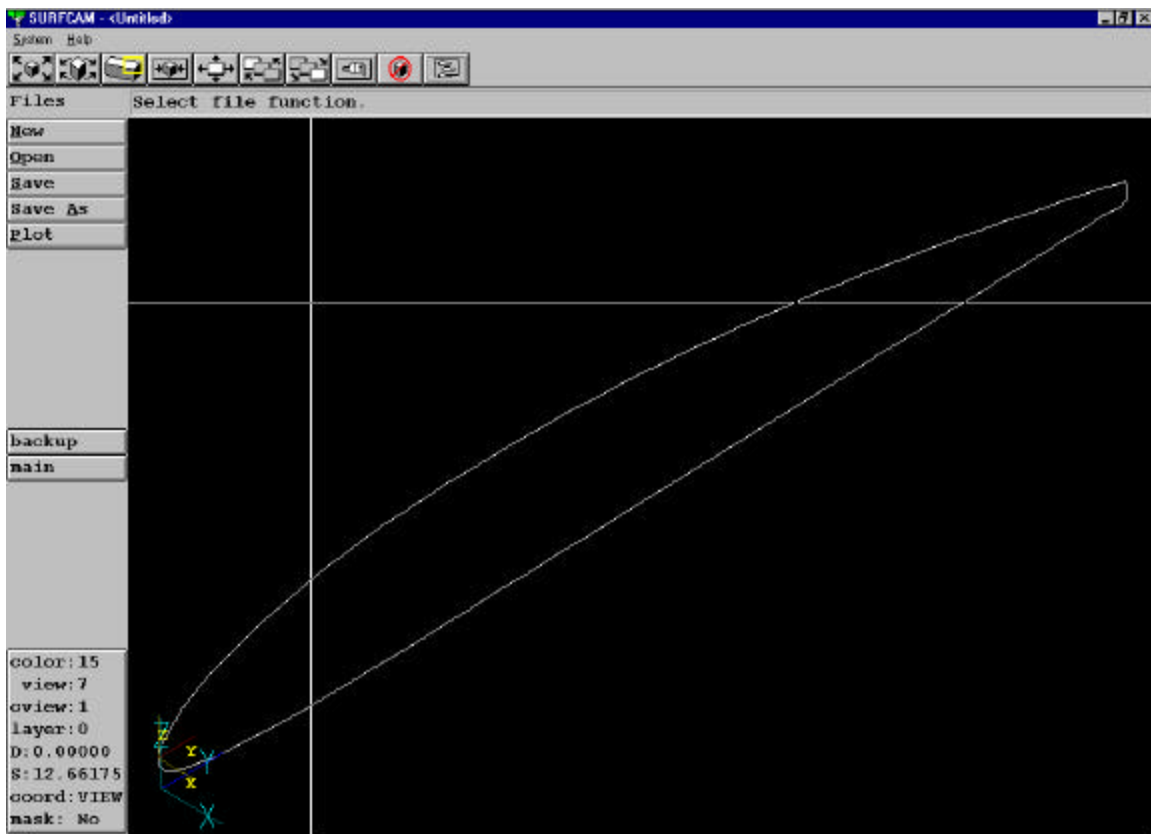

Figure 9: Clark Y airfoil inputted from ASCII file
- 9.) Return to the main Menu of SurfCAM by pressing the MAIN button in the left side of the screen. There should be a complete airfoil section in the display, just like figure 9.